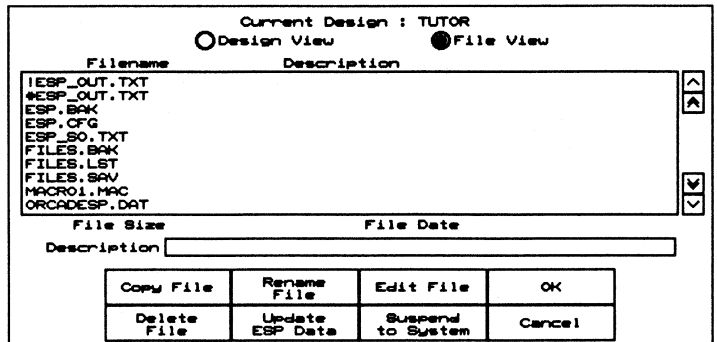

Figure 7-2. File View screen.
1. The **Design Management Tools** screen should still be displayed. Select **File View** at the top of this screen. The screen shown in figure 7-2 displays.